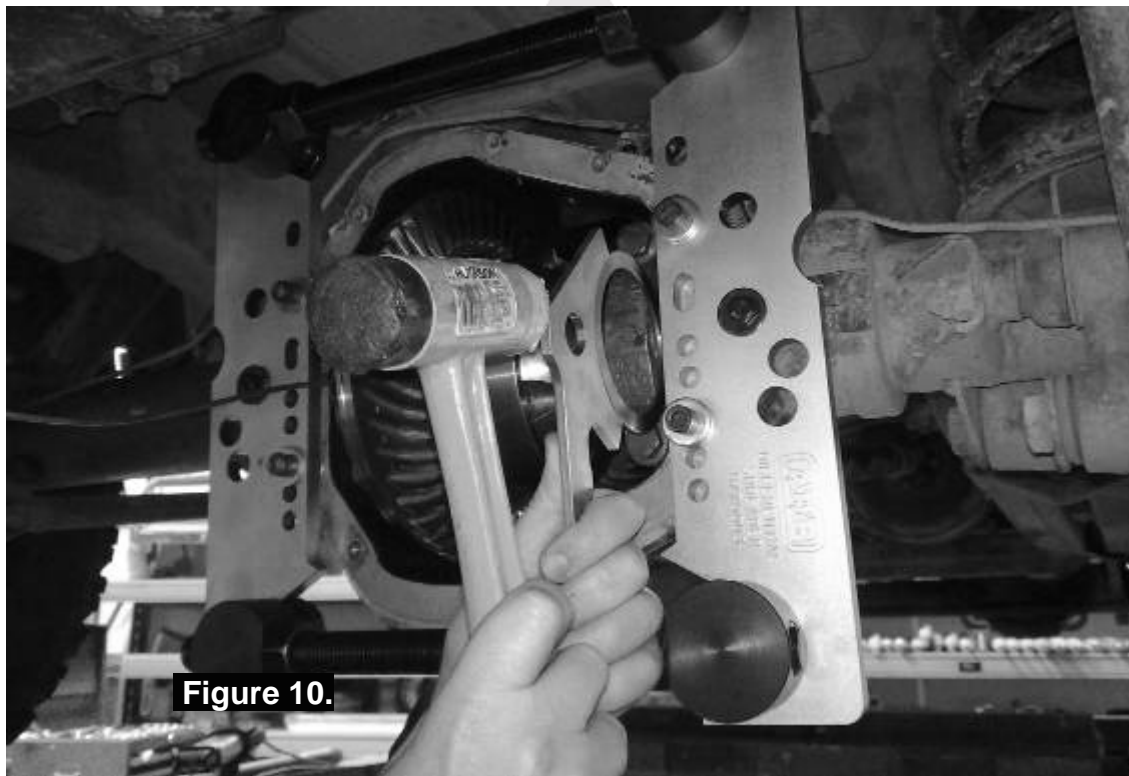

Figure 10.
- While holding the *Air Locker* into the axle housing, lightly tap the original right-hand master shim and shim pack 'B' into place on the right-hand side between the bearing cup and the bearing seat of the axle assembly. (Refer to Figure 10.)